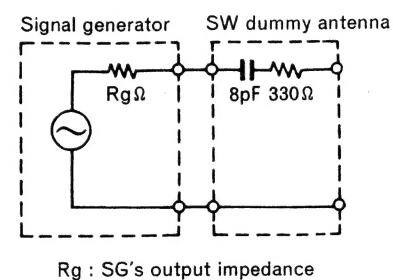

Fig. 5
7. SW dummy antenna shows Figure 5.